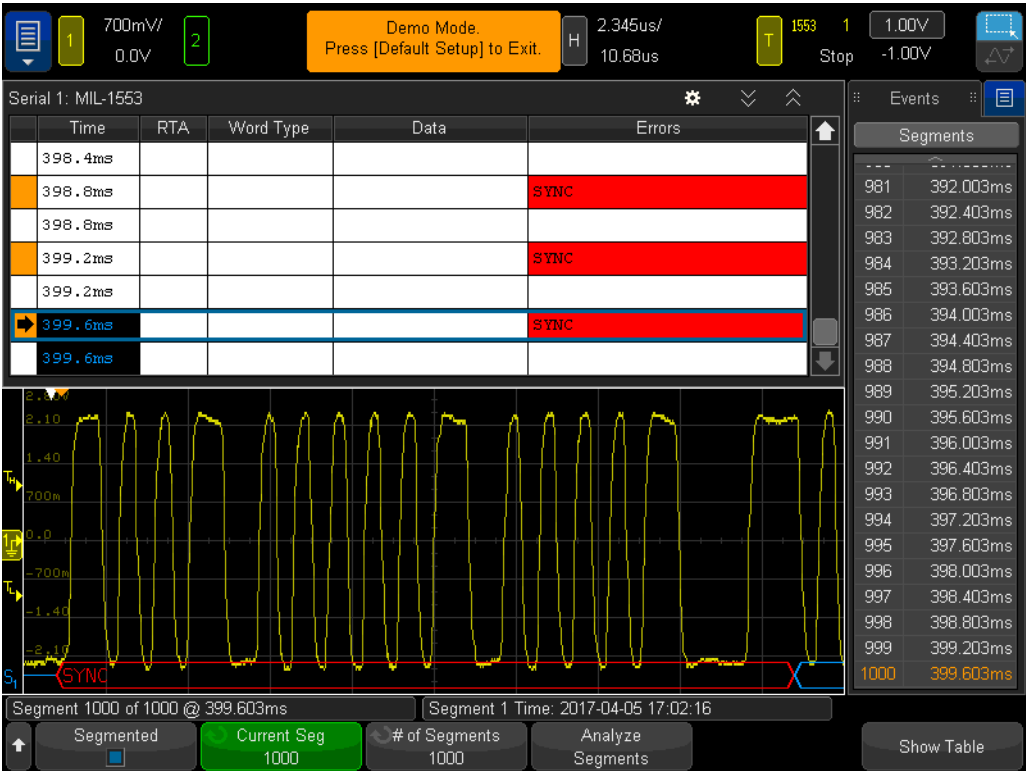

Figure 102 Zoomed in on a frame with a sync error.
- 23 When complete, tap **Current Seg**, open the keypad, and tap **Max**. Note the timestamp of the final segment; it should be roughly 400 ms. see **Figure 102**.